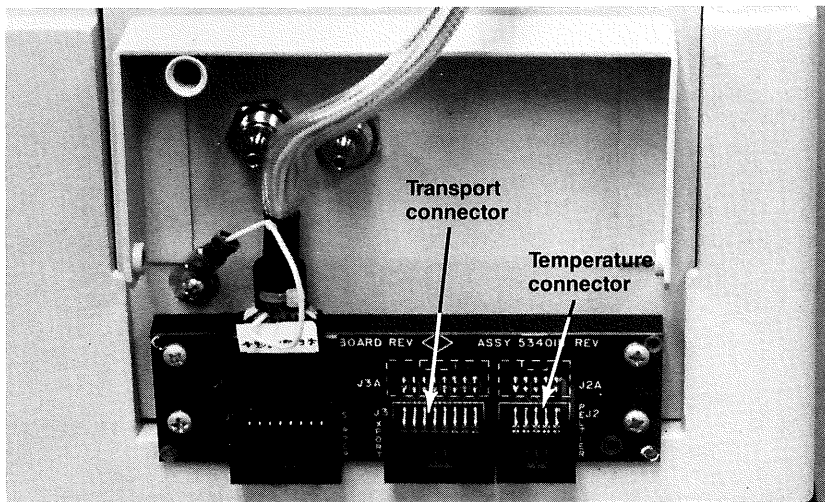

Figure 5.
5. Reattach any cables that were disconnected from the accessory panel in step 2 above, to the bottom of the sipper panel. See Figure 5.